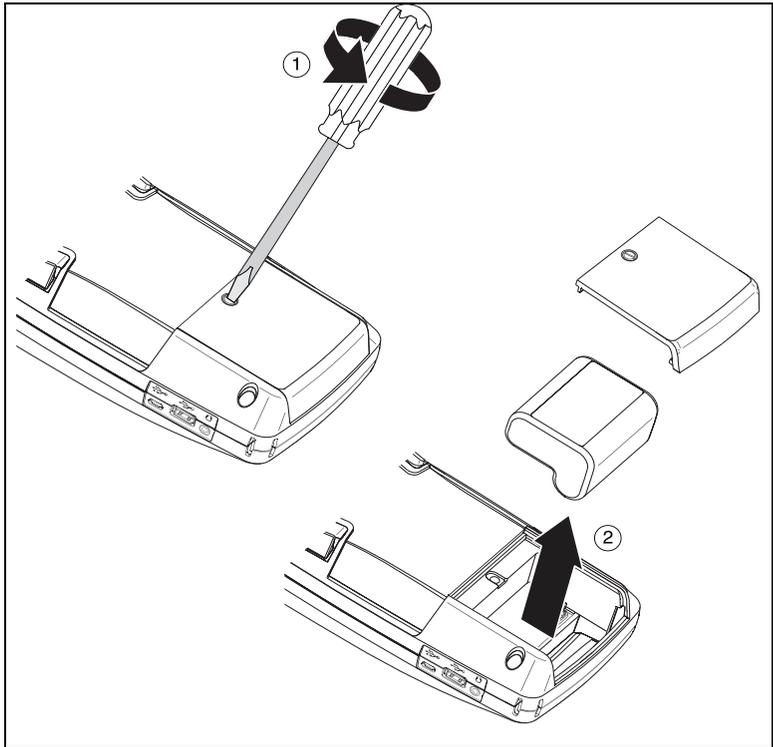

Figure 95. Remove and Install the Battery
- 3 Replace the battery as shown in Figure 95.